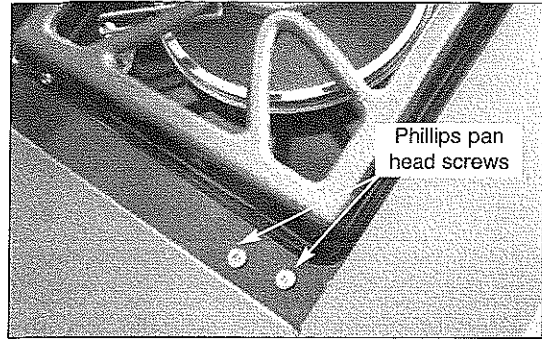

Fig 11
15. Open the side burner door, remove the two Phillips pan head screws holding the side burner orifice bracket in position. (See Fig. 11)
19. Use the two screws removed in step 15 on page 4 to secure the bracket in position. (See Fig. 11)